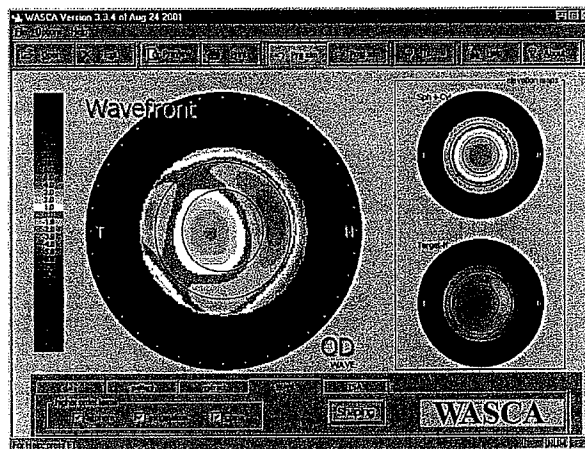

Fig 5: Wavefront maps and ablation map
- Press "apply" to generate the ablation map (Fig 5, bottom right map).